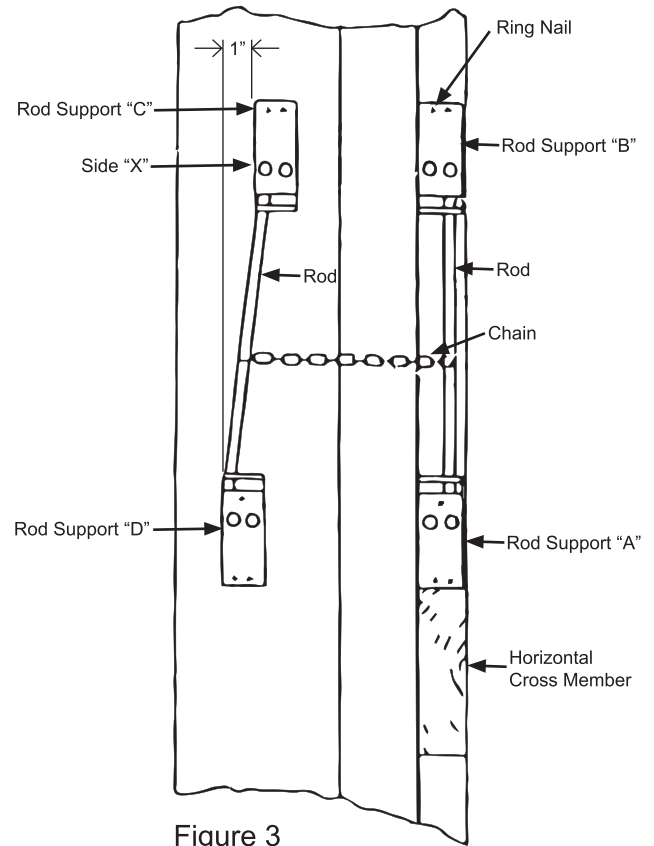
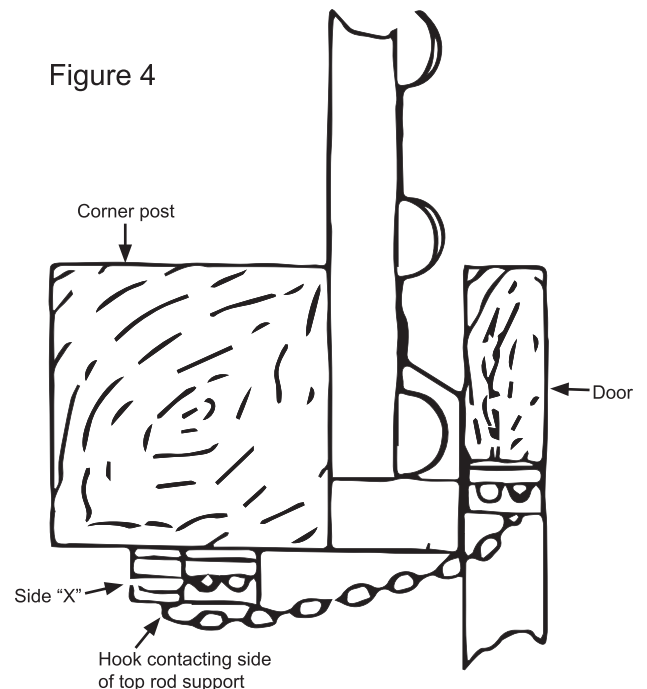

Figure 3
Figure 4
1. Fasten the Rod Support "A" to the vertical door member with two nails as shown (Fig 3).
2. Insert Rod into the large hole next to the far edge of the short leg of Rod Support "A". Place the large link on the end of the chain over the rod, and then slide Rod Support "B" down on the rod as far as it will go and nail to the vertical door member as shown (Fig 3).
3. Before installing the second half of the snigger to the face of the pole (Fig 3), close the door (Door must have a center stop, or otherwise be held stationary).
Attach "S" hook to chain, selecting a link that allows hook to wrap around corner post as shown (Fig 4). Lift the chain already installed as far as possible and pull it around the post on a horizontal plane, making sure the door is tight against the building. With the chain and its hook still in the extended horizontal position, located Rod Support "C" at the same height as Rod Support "B" and with side "X" of Rod Support "C" contacting the hook as shown in Fig 4, nail in two places as shown in Fig 3. NOTE: the chain length may be changed if desired by moving the hook to another link.
4. Insert Rod into Rod Support "C" as shown in Fig 3. Slide Rod Support "D" up on the rod as far as it will go. Nail the support to the pole with Rod Support "D" on an offset of 1" as shown in Fig 3 to obtain the angle required to have snigger chain slip into locking position.